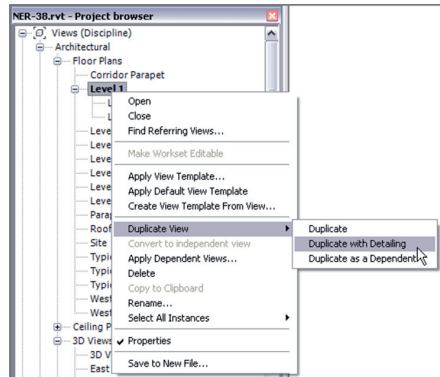

FIGURE BC6.18: Duplicating the view
2. Right-click the Level 1 view in the Project Browser, and click Duplicate View > Duplicate With Detailing, as shown in Figure BC6.18.